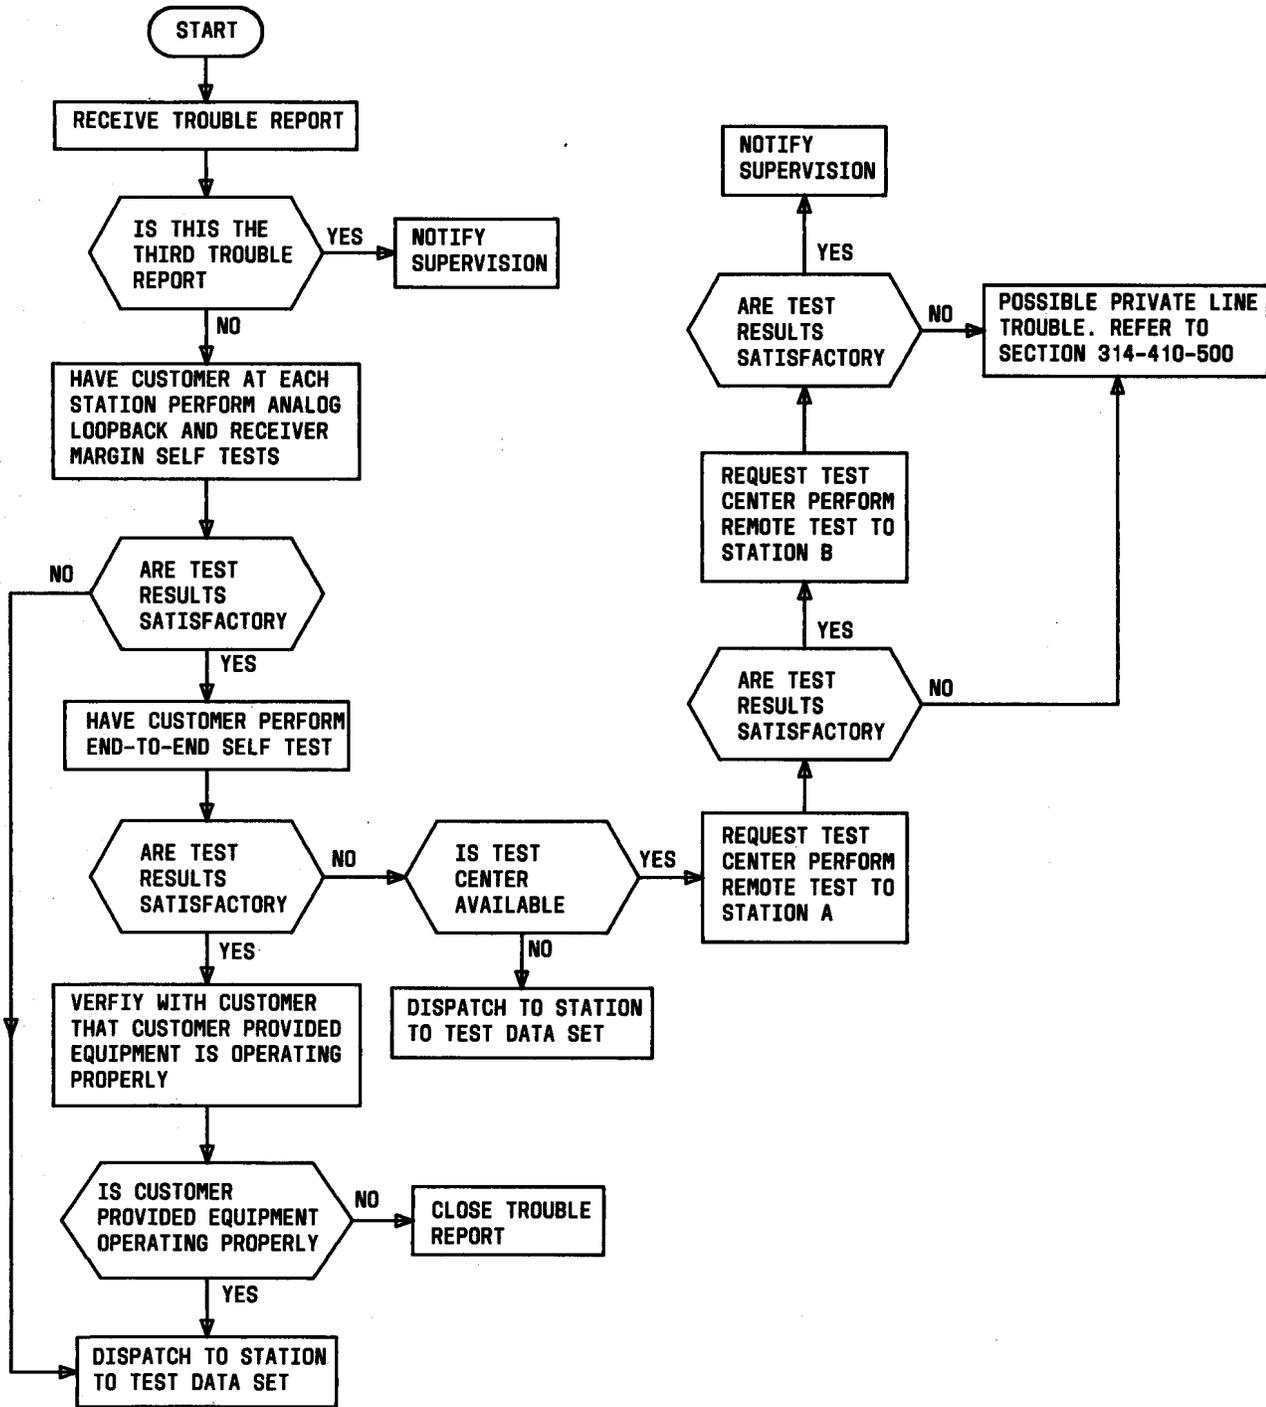
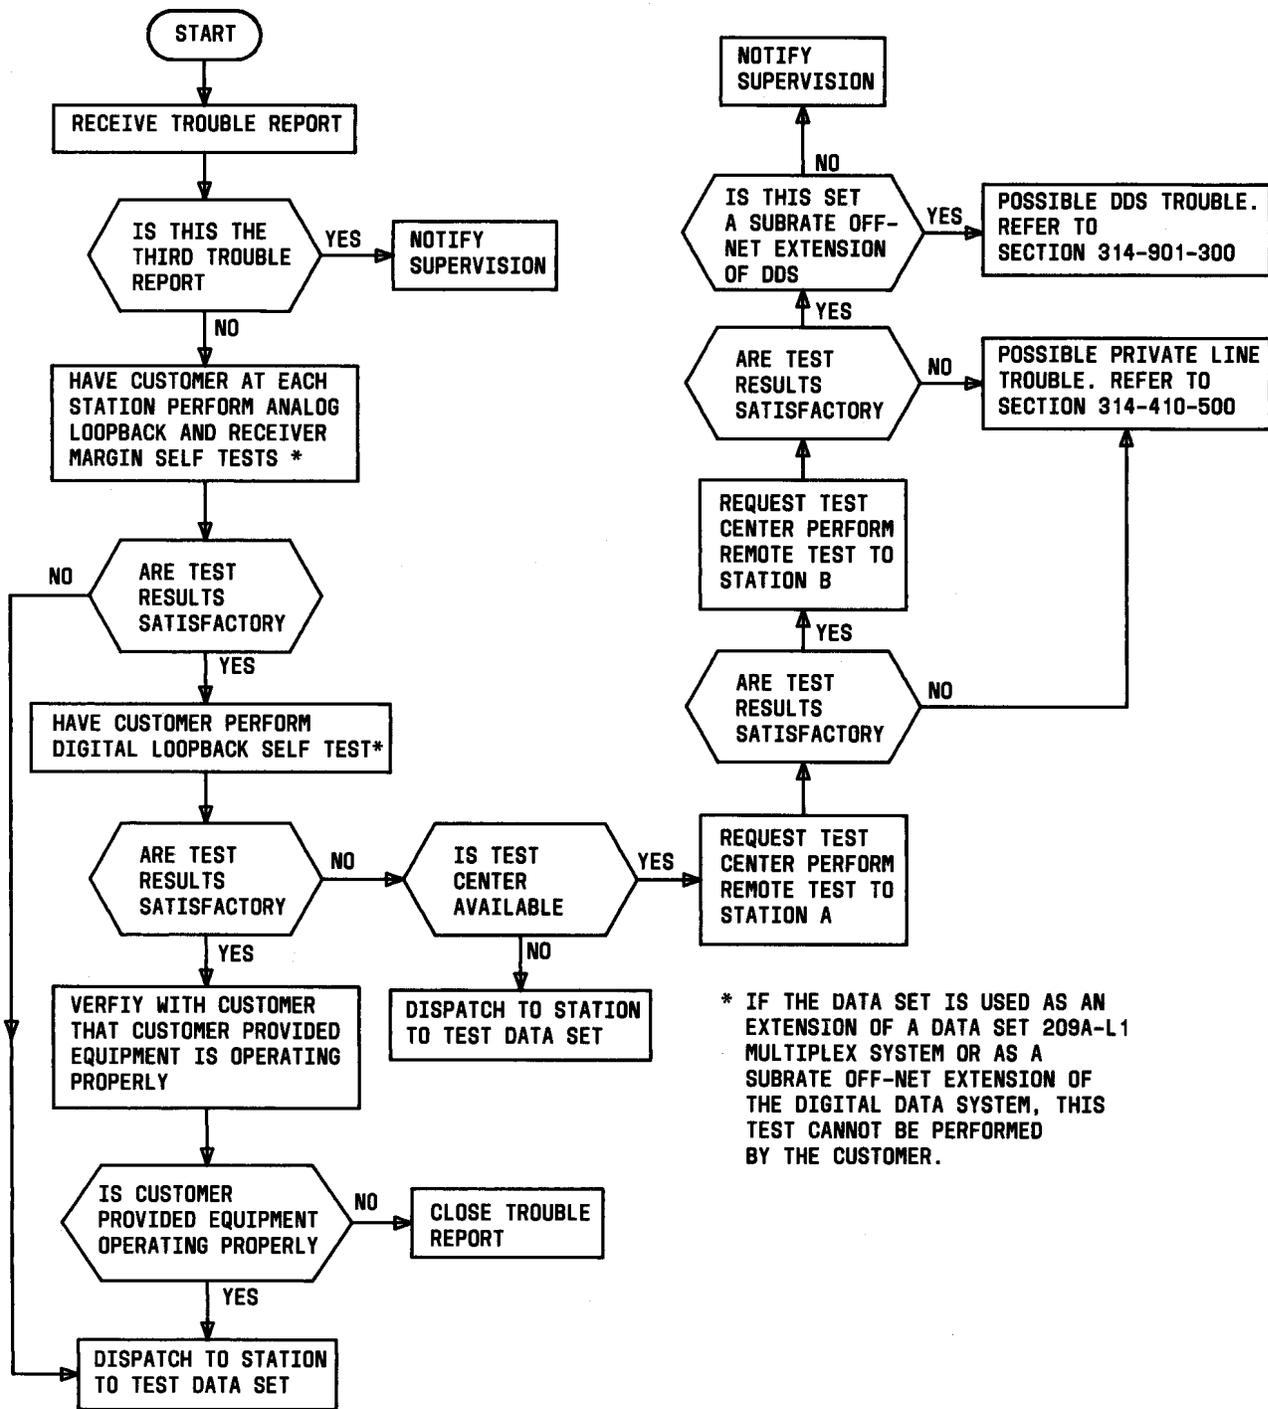

Fig. 4—Clearing Trouble Report (2-Wire Private Line)
Fig. 5—Clearing Trouble Report (4-Wire Private Line)
3.02 When a trouble report is received, a test center is responsible for isolating the trouble to the data station or the transmission facility. The procedure for doing this is shown in Fig. 4 (2-wire private line) and Fig. 5 (4-wire private line).